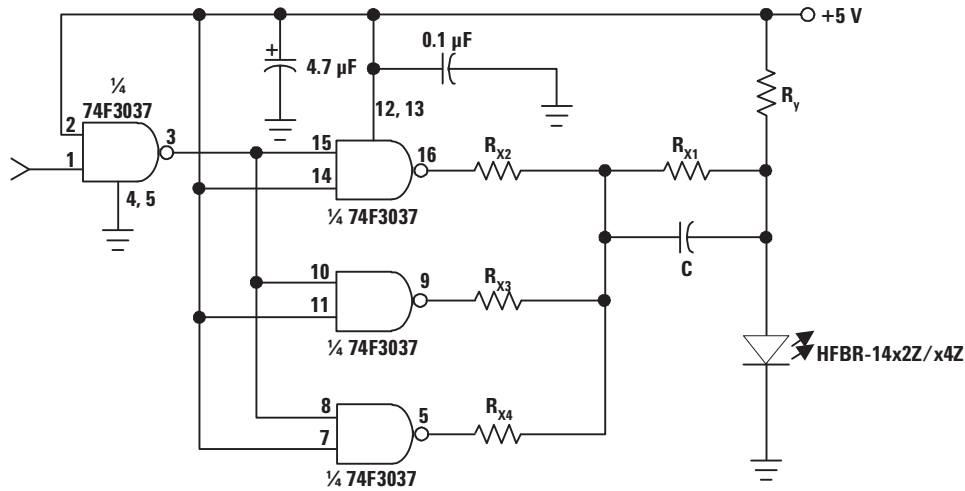

Figure 11. Recommended Drive Circuit.
- Pre-bias is recommended if signal rate > 10 MBd, see recommended drive circuit in Figure 11.
The circuit used to supply current to the LED transmitter can significantly influence the optical switching characteristics of the LED. The optical rise/fall times and propagation delays can be improved by using the appropriate circuit techniques. The LED drive circuit shown in Figure 11 uses frequency compensation to reduce the typical rise/fall times of the LED and a small pre-bias voltage to minimize propagation delay differences that cause pulse-width distortion. The circuit will typically produce rise/fall times of 3 ns, and a total jitter including pulse-width dis-